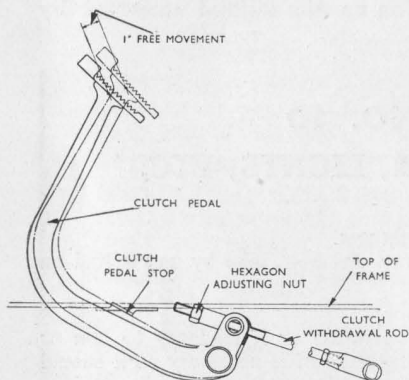

Fig. 24. (Above)—
- (ii) Check clutch pedal clearance. **Should have 1" upward lift. Adjust by nut on operating rod at base of pedal (see Figs. 24 and 25). Unscrew to increase upward lift.**